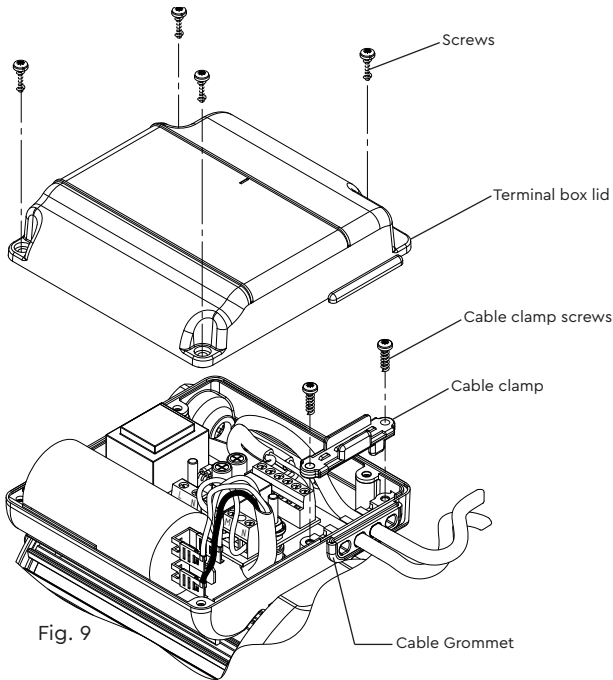

Fig. 9
- Remove four screws and carefully remove terminal box lid (Fig. 9).
- **IMPORTANT** – take note of the cable clamp orientation before removal, as reassembly in the original factory orientation is essential. Remove two screws and cable clamp, this allows any reed or pressure switch cables to be removed from the terminal box (Fig. 9).